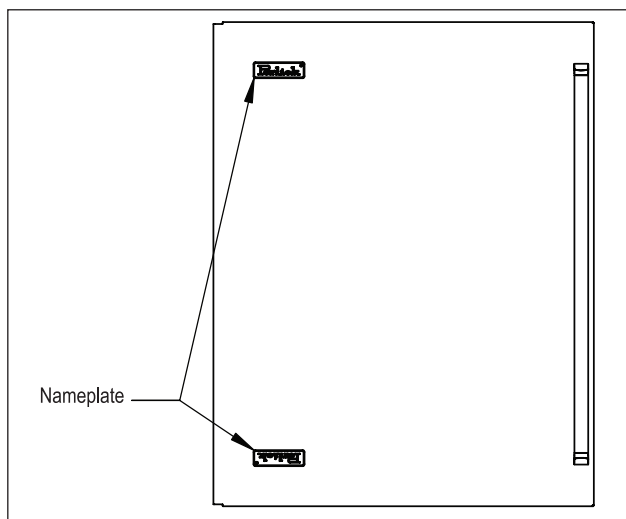

Figure 12. Nameplate
8) Remove the Perlick nameplate from the door front using a plastic putty knife (Fig. 12). Install the new Perlick nameplate included in the kit.